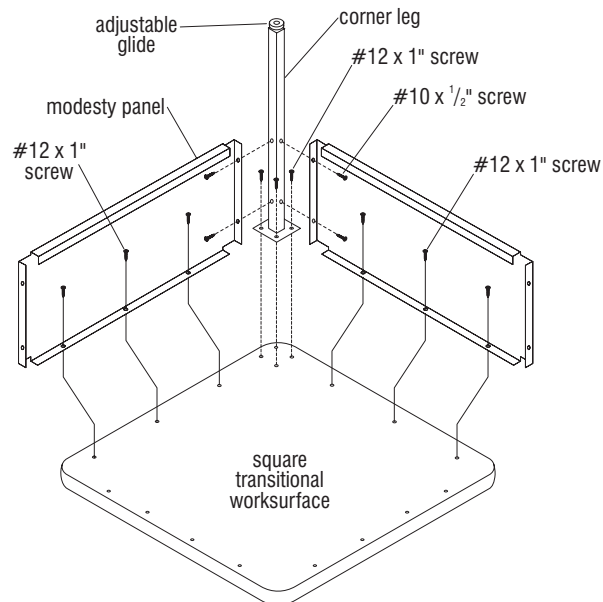

Figure 2
2. To avoid scratching the transitional worksurface, place the top face down onto a soft protective surface (Figure 2).
3. Position the corner leg over the pre-drilled holes in the back corner of the worksurface. Be sure the modesty panel mounting holes are oriented as shown. Attach the corner leg to the worksurface with four #12 x 1" screws. Do not tighten at this time (Figure 2).
4. Align one modesty panel to the corner leg and worksurface mounting holes. Insert two #10 x 1/2" screws through the modesty panel and into the corner leg. Attach modesty panel to worksurface with two #12 x 1" screws. Do not tighten at this time. Repeat this step for second modesty panel. Tighten all screws attaching the corner leg and the modesty panels (Figure 2).